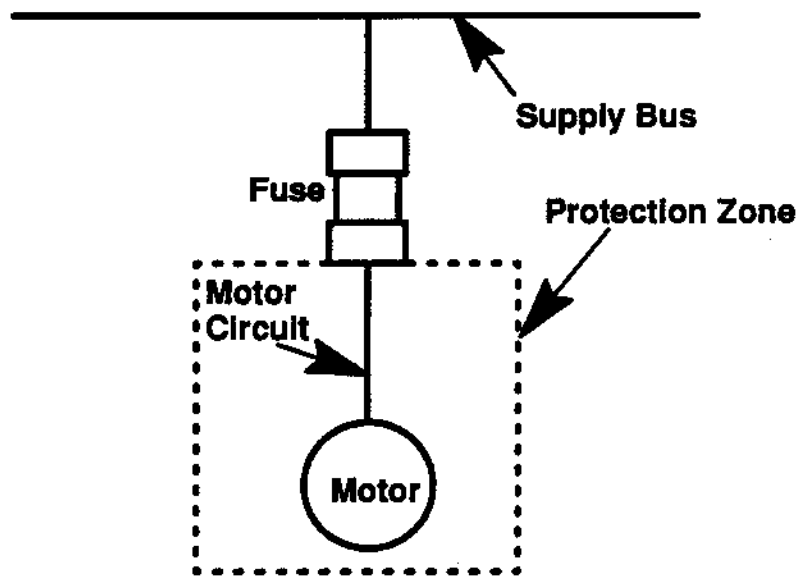

Figure 4.1: Protection Zone For A Motor Circuit
- Obj. 4.1* ⇔ The section of a circuit protected by a given device is referred to as a **protection zone**. For example, Figure 4.1 shows a simple motor circuit, which is protected by a fuse. The dotted line represents the area that is protected by the fuse. If a fault occurs within the zone of protection, which includes the motor and motor circuit, the fuse will open and electrically